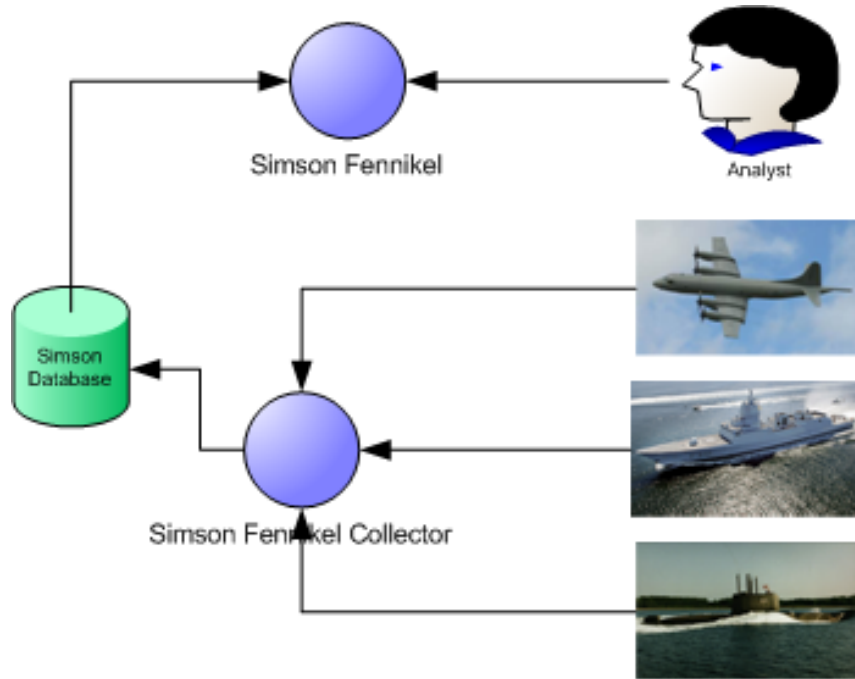

Figure 1.1 A diagram showing the collaboration between Simson Fennikel and Simson Fennikel Collector.
Project 899 “Nansen-klasse fregatt, evaluering” is to supply the navy with quick look analysis software, for anti -submarine warfare (ASW), by the end of 2008. The software is intended used on board the Norwegian Fridtjof Nansen class frigates. The analysis software, named Simson Fennikel, will aid in the evaluation of the actions during ASW exercises. The Simson Fennikel Collector (FC) application [5] will be used to handle recorded data, and store the relevant data in a Simson database. The data in the database is in turn accessed by Simson Fennikel, see Figure 1.1.